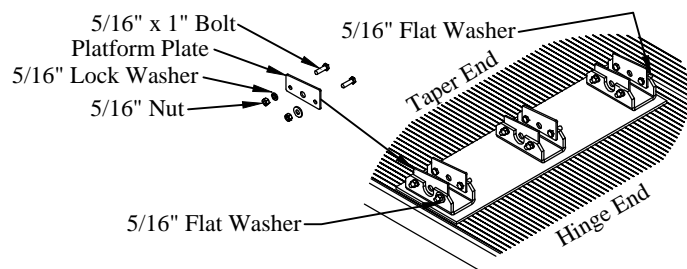

Figure 5: Platform plate location.
6. **Install** the platform plates on the platform with the provided 5/16" x 1" bolts, lock washers, and nuts. The wide end goes toward the platform hinge. Note the location of the two (2) flat washers in place of lock washers (Figure 5).